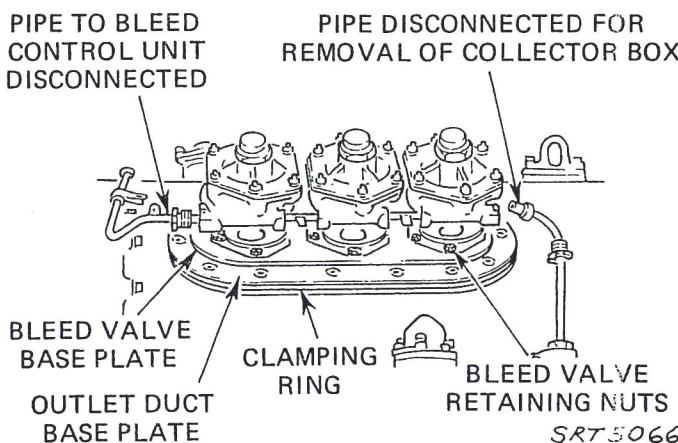

Fig.2 Air bleed valves
5. The three valve units mounted together on each side of the upper half casing (fig.2) are connected by short rigid pipes which prevent the removing of an individual valve unit.